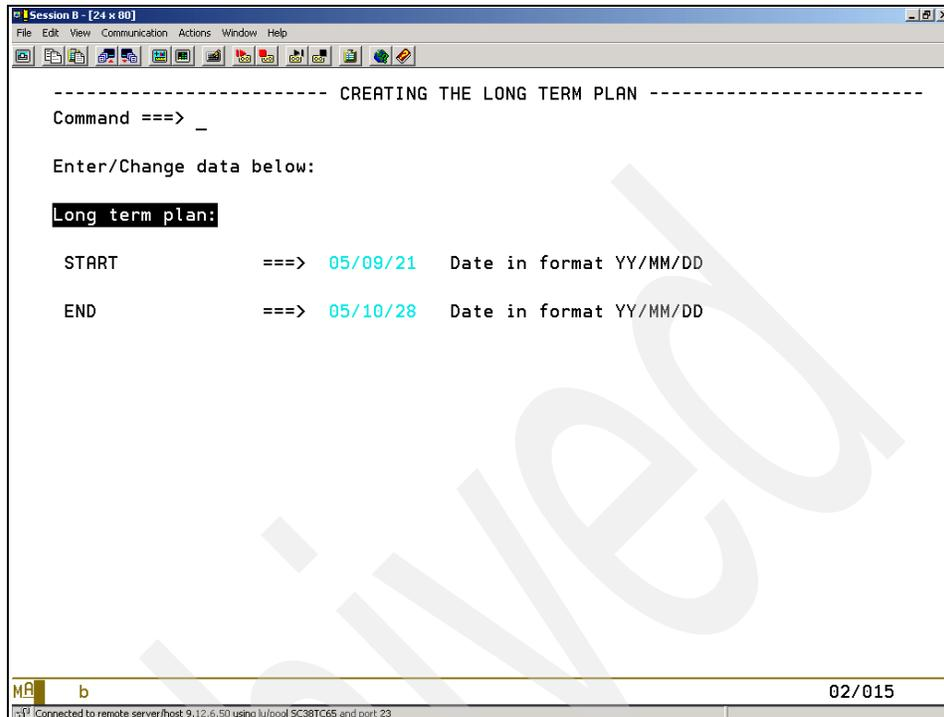

Figure 1-18 Creating the long-term plan
3. Enter the start and end dates of the long-term plan (Figure 1-18 on page 52).